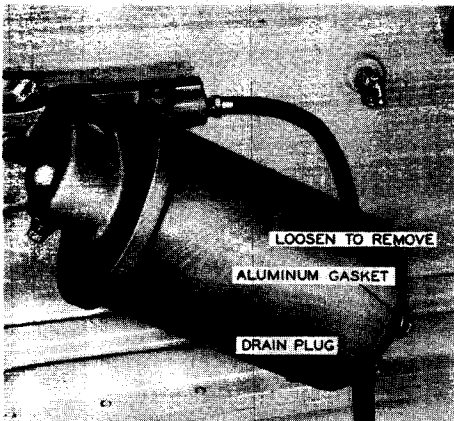

Figure 13
1. Remove the drain plug, Figure 13.
NOTE: If leakage is observed between the shell and nut, a new aluminum shell gasket must be installed, Figure 13.